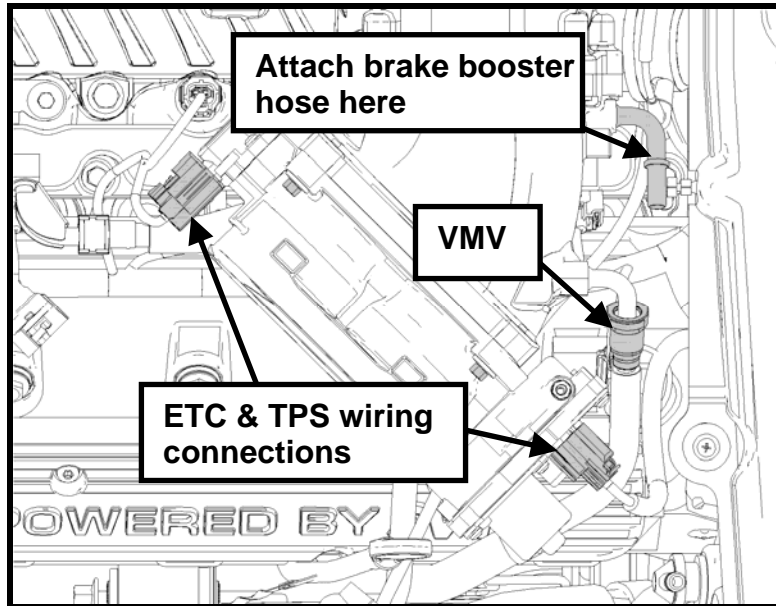

Fig. 26
STEP 10: Re-install the brake booster hose and VMV to the throttle spacer. Re-connect the electrical harness to the ETC and TPS mounted on the throttle body (See Fig. 26).